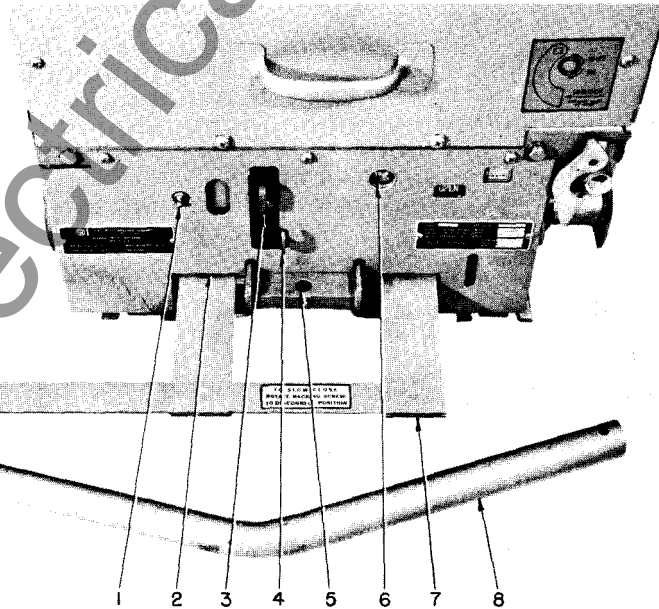
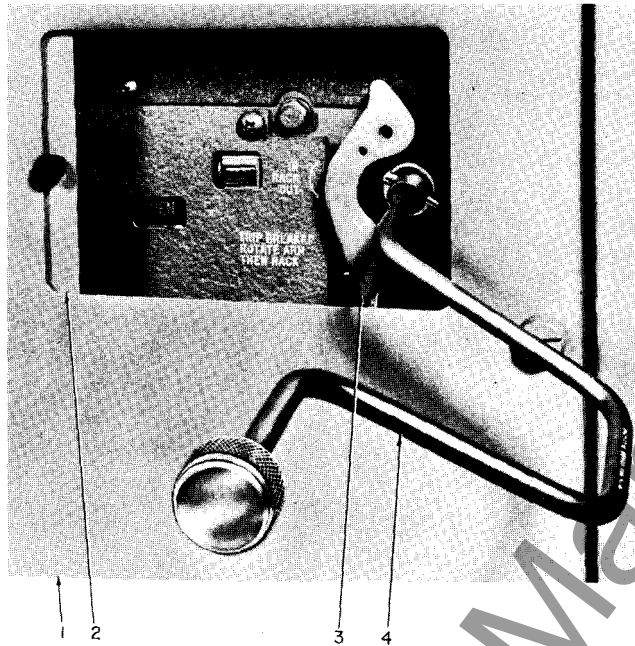

Fig. 2—Front View of Control Panel
Fig. 3—Method of Racking Circuit Breaker
Turn power control switch (1, Fig. 2) "OFF". Pull the manual close lever (4) and push manual trip button (6).
MANUAL SLOW CLOSE TO CHECK CONTACT PRESSURE (See Fig. 2)
Engage racking crank (4, Fig. 3) and push racking unlocking lever (3) clockwise, then rotate racking screw counterclockwise until stopped.
Engage the fifth wheel with hole (5, Fig. 2); guide and push circuit breaker into compartment until stopped. Again engage racking crank and rotate clockwise until racking mechanism automatically stops at "DISCONNECT" position. (Breaker is now held captive in compartment.)
To rack circuit breaker to "TEST" position, push racking unlocking lever (3, Fig. 3) clockwise approximately 1/4 turn then release unlocking lever. Continue cranking until racking mechanism automatically stops at "TEST" position. (If charging power switch (1, Fig. 2) is not provided, springs will automatically charge when approaching "TEST" position.)
When racking circuit breaker to "CONNECTED" position, close compartment door (1, Fig 3) and open sliding panel (2).
If the circuit breaker is completely uncharged, manually charge closing springs with manual charge lever (3, Fig. 2) and pull manual close lever (4) with a lanyard from a safe distance.
Open sliding door (2, Fig. 3) in front compartment door (1). Engage racking crank (4) and push unlocking lever (3) clockwise. Rotate racking crank (4) counter-clockwise approximately a quarter turn, then release unlocking lever. Continue cranking until racking mechanism automatically stops at "TEST" position.